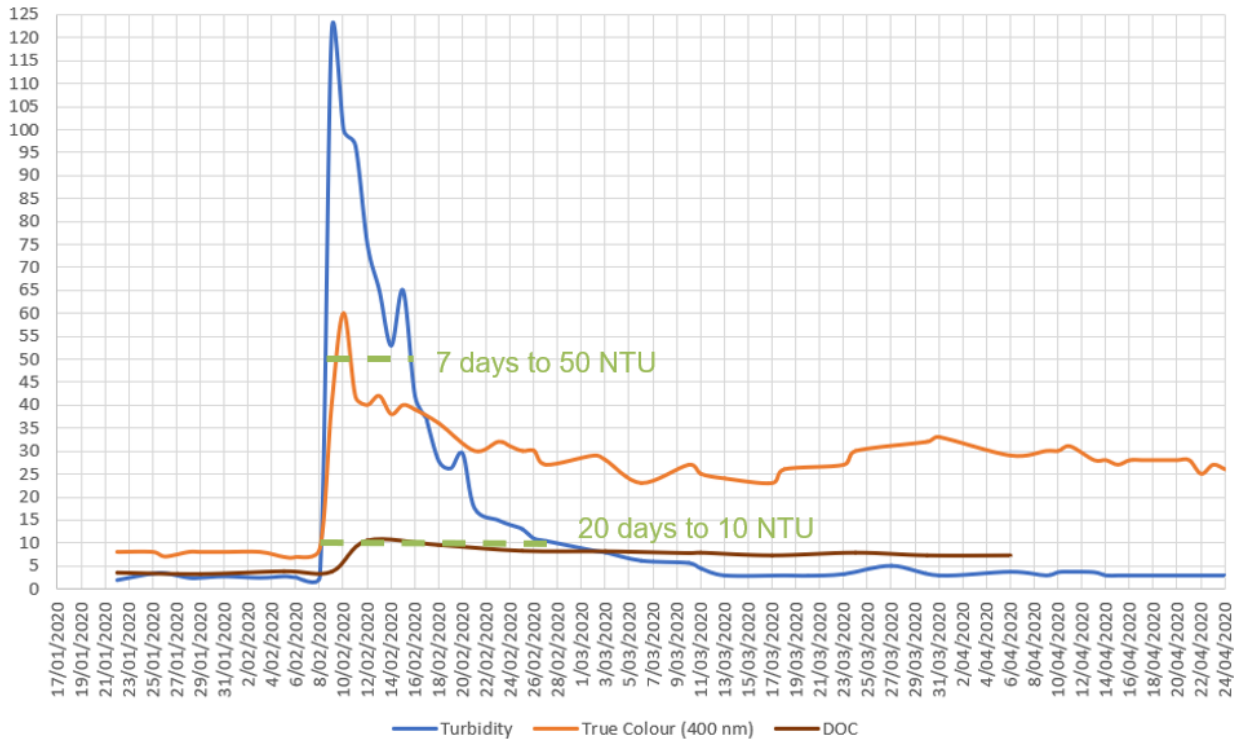

Figure 2: Raw Water Turbidity, Colour and DOC Trends After Wet Weather Event
Figure 2 provides a higher resolution snapshot of the behaviour of three key contaminants in raw water: turbidity, true colour, and DOC after the 2020 extreme wet weather event.
- The duration of the poor raw feed water quality event during which the treatment plant would be unable to perform to meet the required water quality and/or quantity targets. That the types of events can be managed using this approach are limited by the available storage volumes. For example, if the event results in elevated turbidity only, the duration of the event is likely to be lower than if the event results in elevated colour (refer to Figure 2) or if the event results in elevated salinity caused by ongoing drought conditions with an unknown event end.